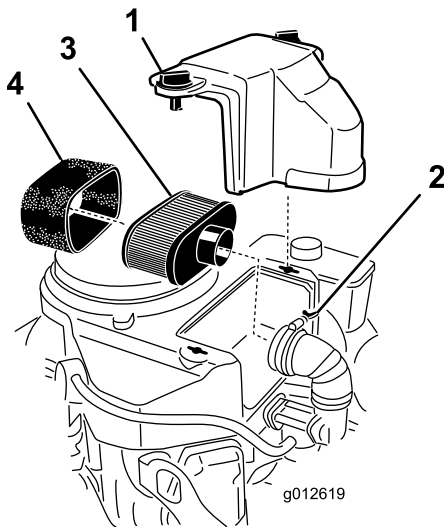

Figure 39
3. Clean around the air cleaner to prevent dirt from getting into the engine and causing damage (Figure 39).
4. Unscrew the cover knobs and remove the air cleaner cover (Figure 39).
5. Unscrew the hose clamp and remove the air cleaner assembly (Figure 39).
6. Carefully pull the foam element off the paper element (Figure 39).
1. Clean the paper element by tapping gently to remove dust. If it is very dirty, replace the paper element with a new one (Figure 39).
1. Carefully slide the foam element onto the paper air cleaner element (Figure 39).
2. Place the air cleaner assembly onto the air cleaner base or hose and secure it (Figure 39).
3. Place the air cleaner cover into position and tighten the cover knob (Figure 39).